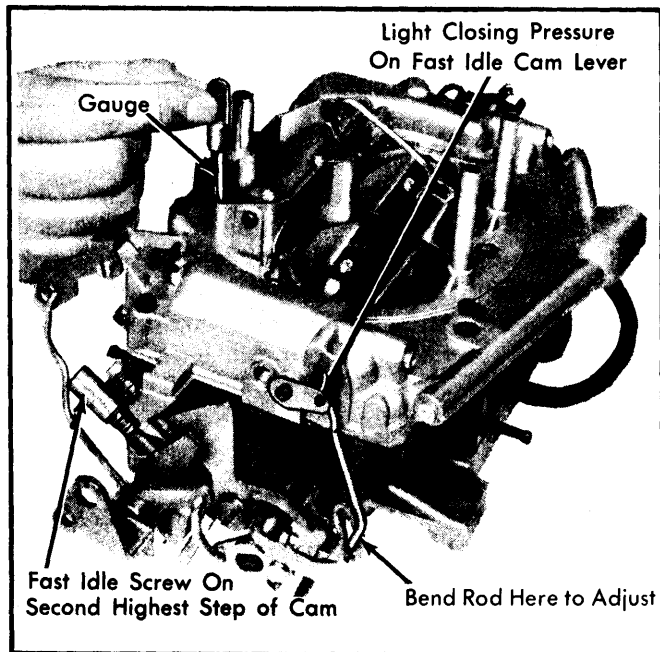

Fig. 9 Adjusting Fast Idle Cam Position
- 1) Position fast idle speed screw on second step of fast idle cam. Close choke valve by applying light closing pressure on fast idle cam lever. See Fig. 9.